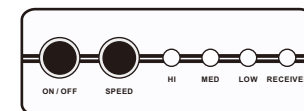

Fig.6
2. Working with receiver box: (Fig. 6)